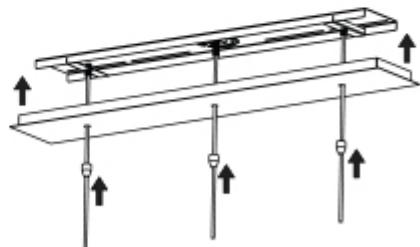

Figure 12
15. Remove the wire hanging hooks while lifting the cover plate to the mounting bracket. Make sure all wires are tucked safely inside. Align the holes of cover plate with the threaded nipples on the mounting bracket and lift it upwards until it is flush with the mounting bracket. Slide the three steel bezels up the cording and screw them onto the three threaded nipples. This will secure the cover plate to the mounting bracket and complete your installation. (Figure 12)